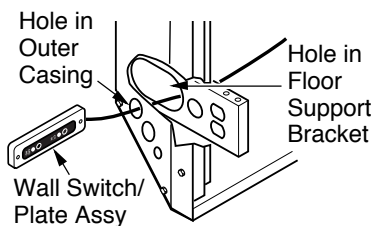

Figure 9 - Routing Wall Switch/Plate Through Fireplace for Relocation
- Carefully pass wall plate and cord through large elongated hole in rear of either left or right floor support bracket, depending on desired location of switch. Pass wall plate and cord through 1.5" diameter hole in side of fireplace outer casing (see Figure 9).